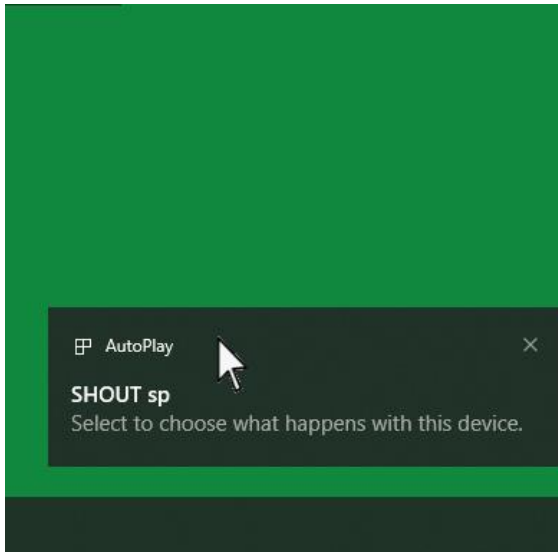

Figure 80: Windows AutoPlay
5. Verify the *AutoPlay* popup window displays at the bottom of your PC (see **Figure 80**).
6. Click the **AutoPlay** Popup notification to choose what to do with the plugged in device (see **Figure 80**).